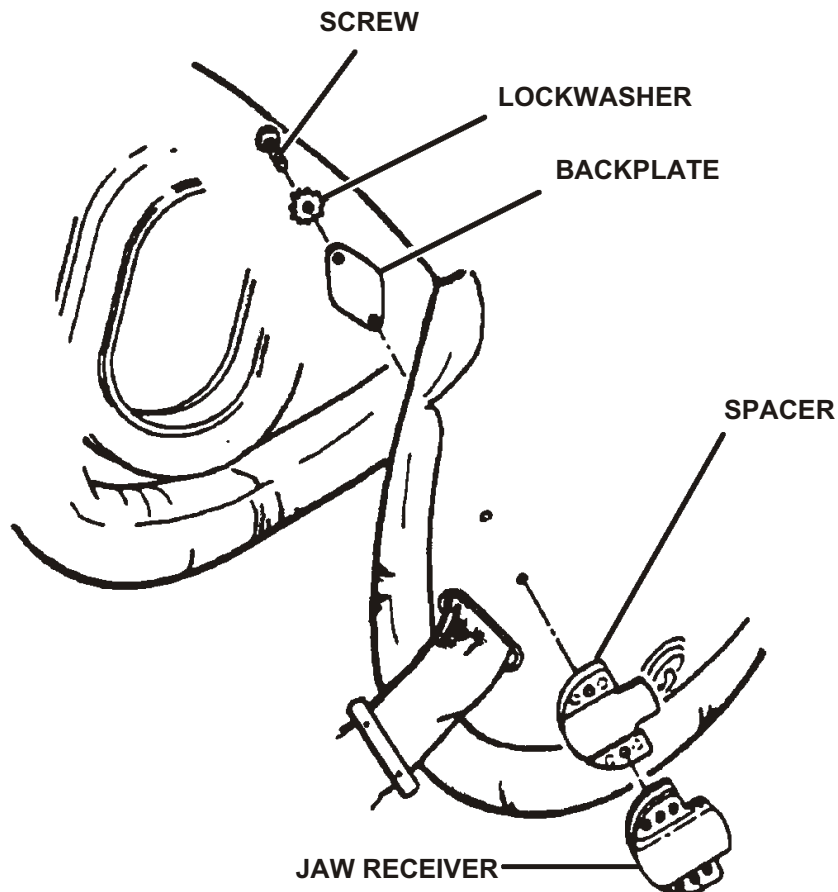

Figure 2-11. Bayonet Receiver Assembly
7. Hold the pile fastener fabric away from the helmet shell. Referring to Figure 2-11, insert screws with lock washers through the backplate and the inside of the helmet shell. Attach the spacers and receivers to the outside of the helmet shell. Ensure that the jaw receiver projections point to the rear of the helmet.